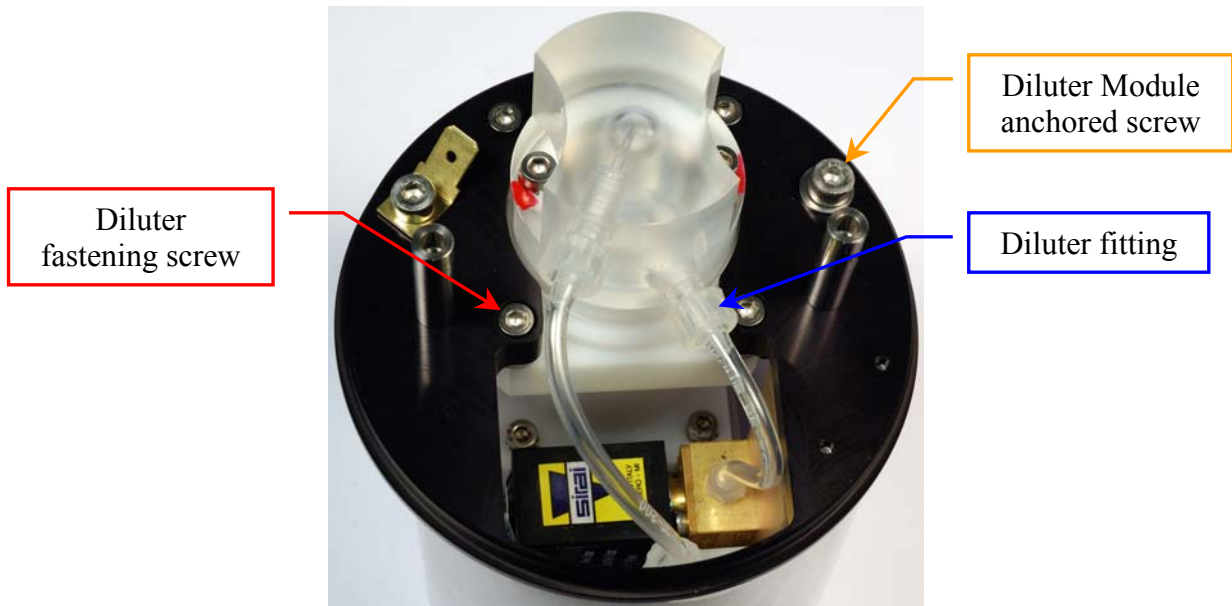
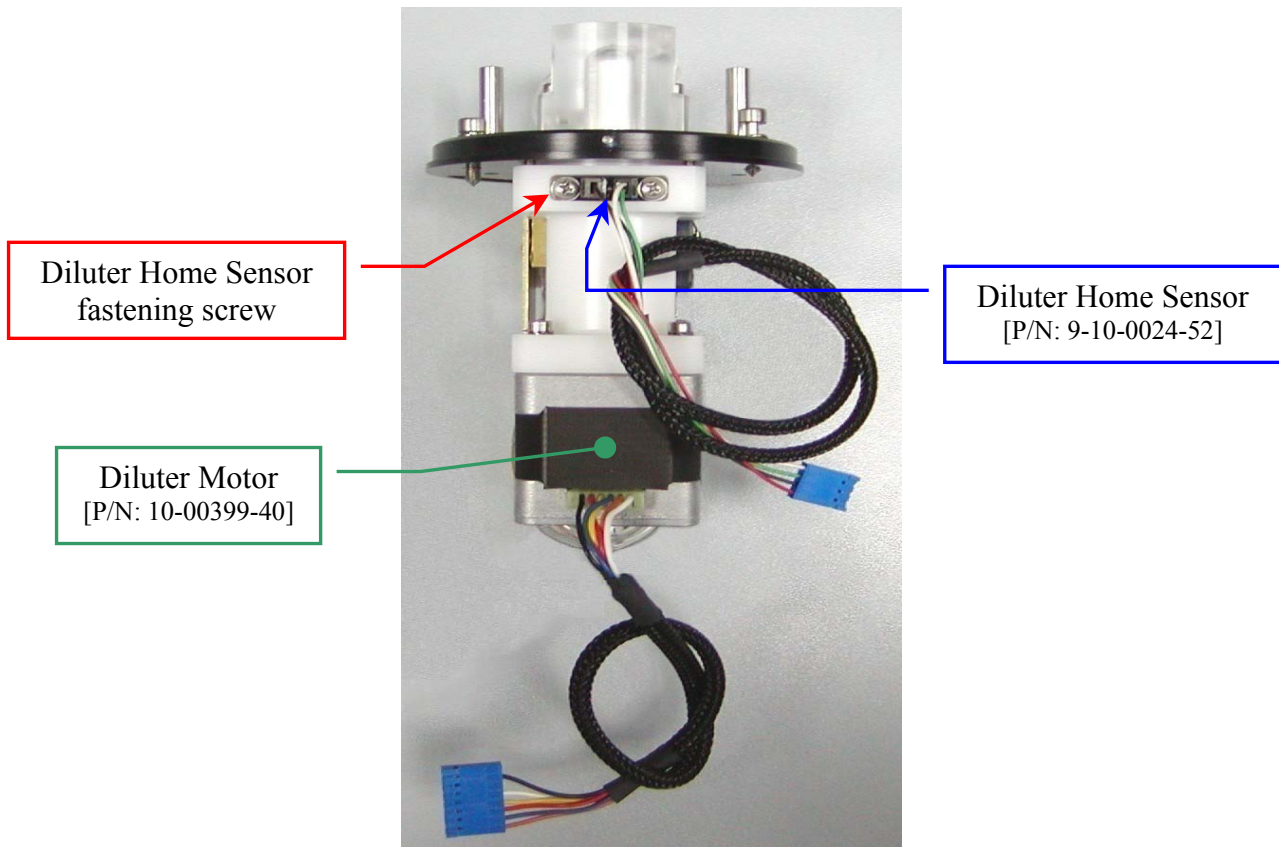

Fig. 31 – Diluter Module (top view)
Fig. 32 – Diluter Module [P/N: 10-00496-01]
6. Loosen the two anchored screws (Fig. 31) and pull out the Diluter Module (Fig. 32) from its hole, making attention not to crash the tubes of the hydraulic circuit.
7. Unscrew the two fitting from the Diluter head (Fig. 31), making attention to the spillage of the Rinse Solution from the two tubes.
9. Unscrew the four Diluter fastening screws (Fig. 31) and pull out the Diluter from its mechanical support.